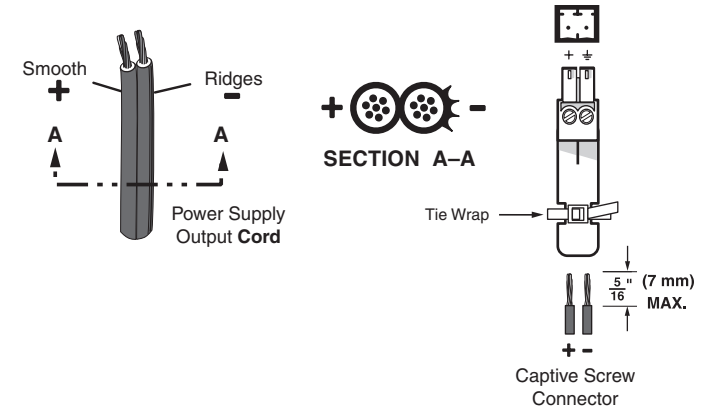

Figure 9 — Power connector wiring
- 3 **Power connector** — Plug the external 12 VDC power supply into this 2-pole captive screw connector. The power supply is included with the unit. Figure 9, on the next page, shows how to wire the connector.